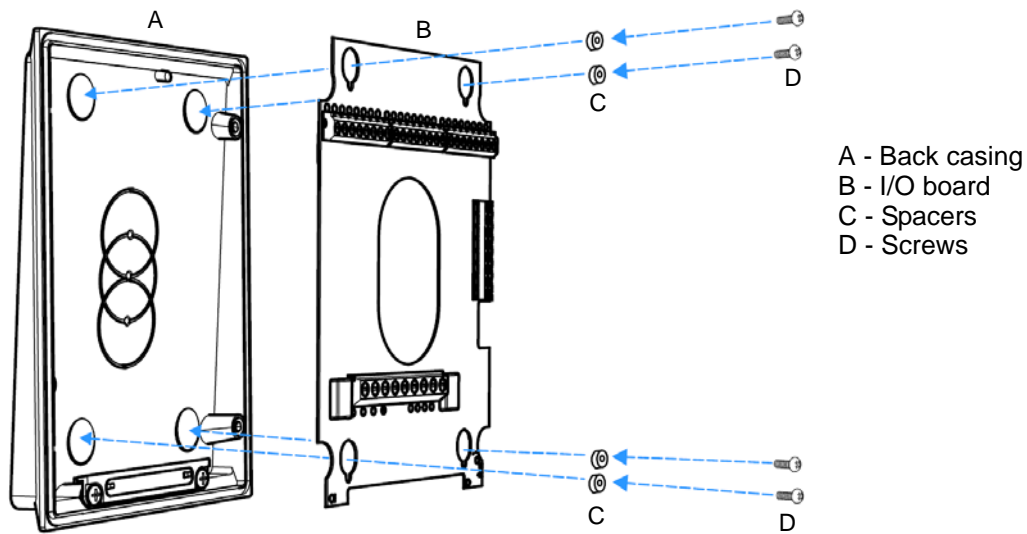

Figure 12 Exploded view illustration of the back casing and I/O board
4. Drill the back outer casing as required for cable access and back box mounting. For more information, see *Figure 12*.